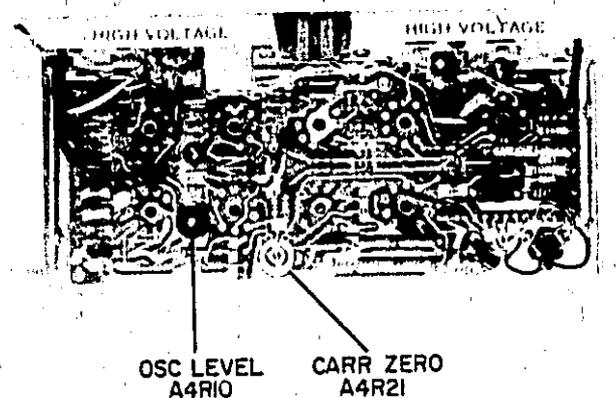

Figure 5-10. Oscillator-Amplifier Deck Adjustment Locations
f. Adjust oscillator level control potentiometer A4R10 on the oscillator-amplifier deck for a maximum current of 25 mA at frequency of maximum current. See Figure 5-10 for adjustment location. If this adjustment is made, check the following:
(1) Paragraph 5-42, Carrier Zero Adjustment
(2) Paragraph 5-44, Maximum Carrier and Modulation Zero Adjustment
(3) Paragraph 5-46, Modulation Meter Adjustment
f. Set CARR ZERO potentiometer A4R21 fully counterclockwise. See Figure 5-10 for adjustment location.
(1) Paragraph 5-44, Maximum Carrier and Modulation Zero Adjustment
(2) Paragraph 5-46, Modulation Meter Adjustment
f. Repeat step c. If PERCENT MODULATION meter does not indicate  $50 \pm 5\%$ , adjust MODULATION AMPLITUDE control until it does. Adjust CARR ZERO potentiometer A4R21 slightly until pattern on oscilloscope is as shown in Figure 5-6. See Figure 5-10 for adjustment location. Recheck maximum carrier adjustment (paragraph 5-44) and readjust potentiometer A1R60, if necessary.